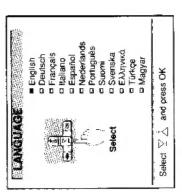

Fig. 1
- 3 The LANGUAGE menu appears. (See Fig. 1)